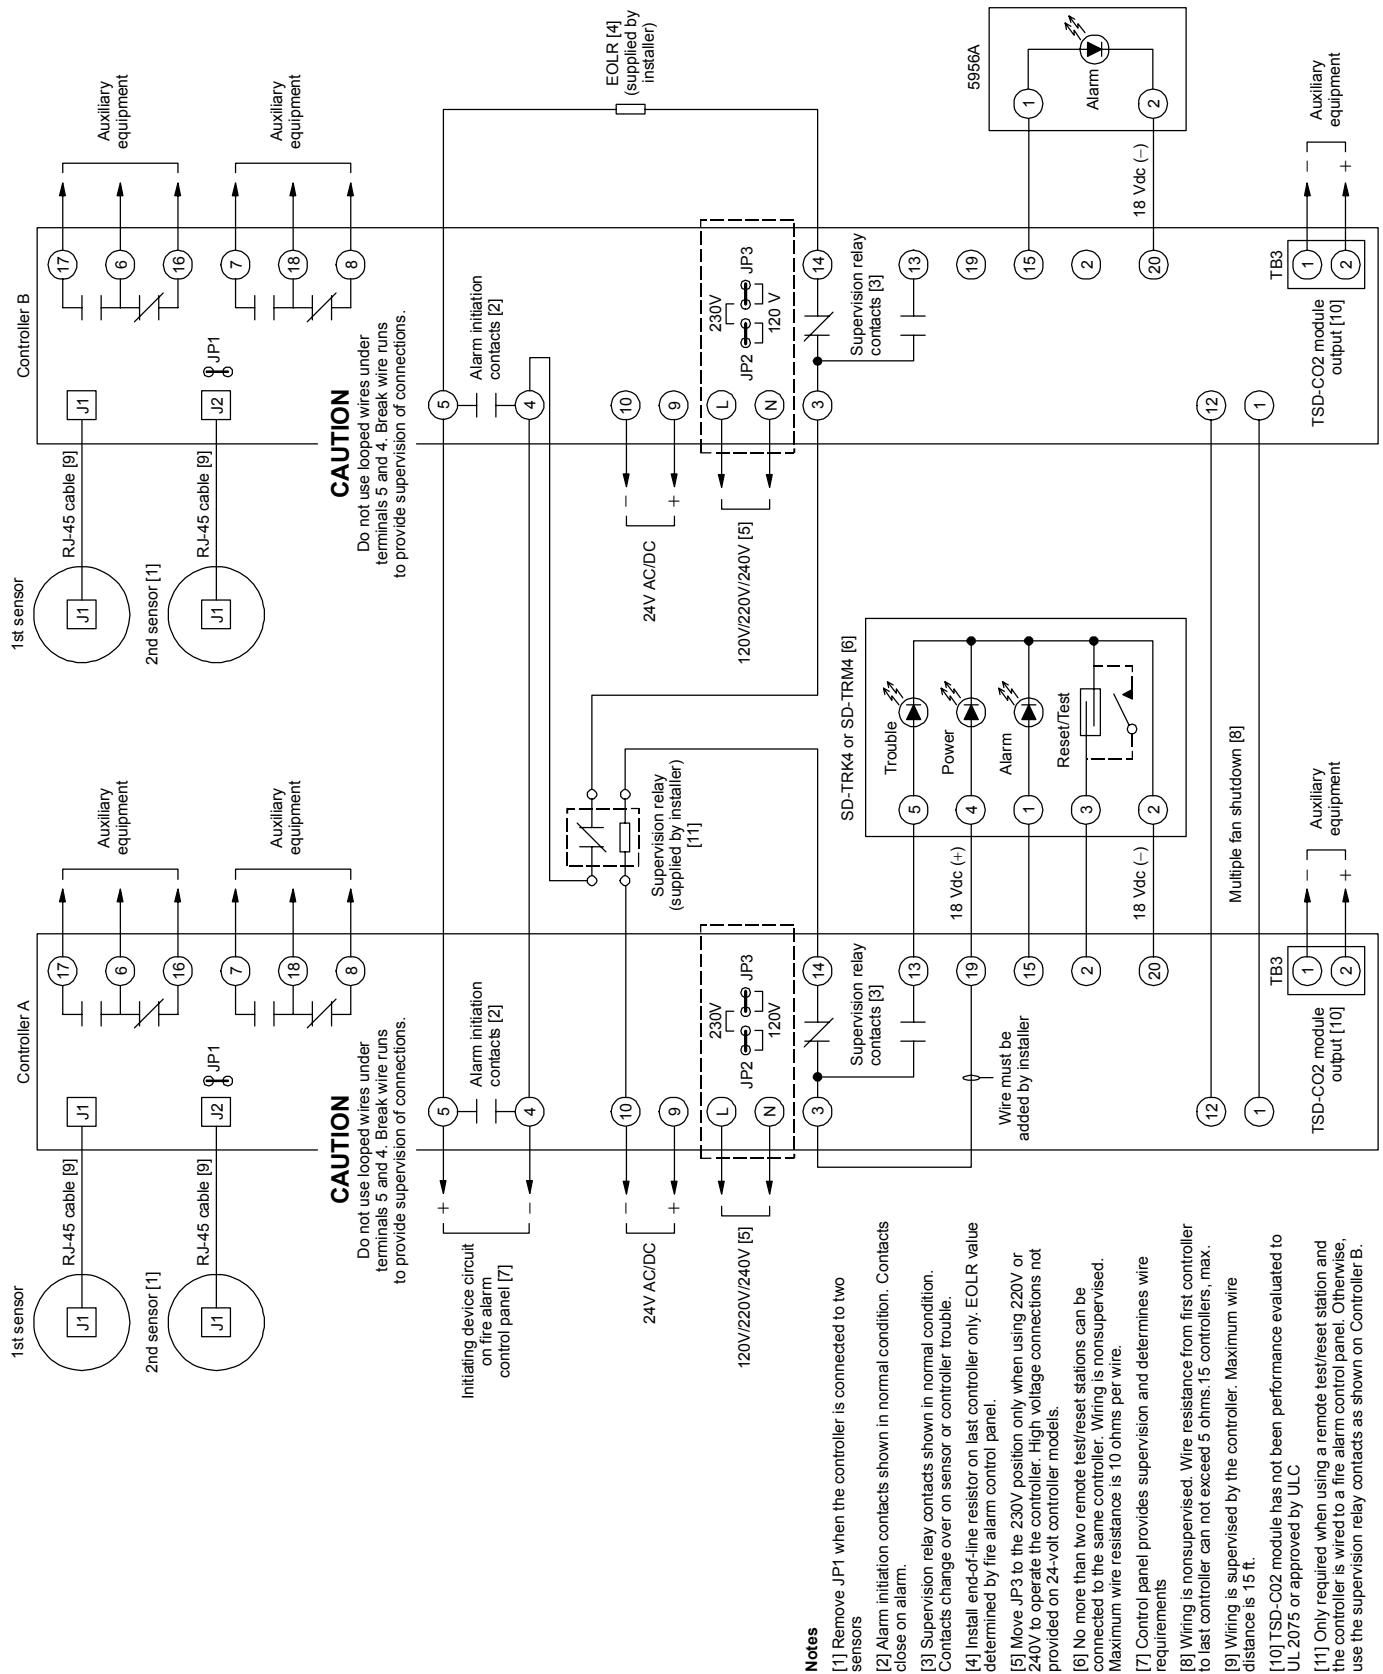
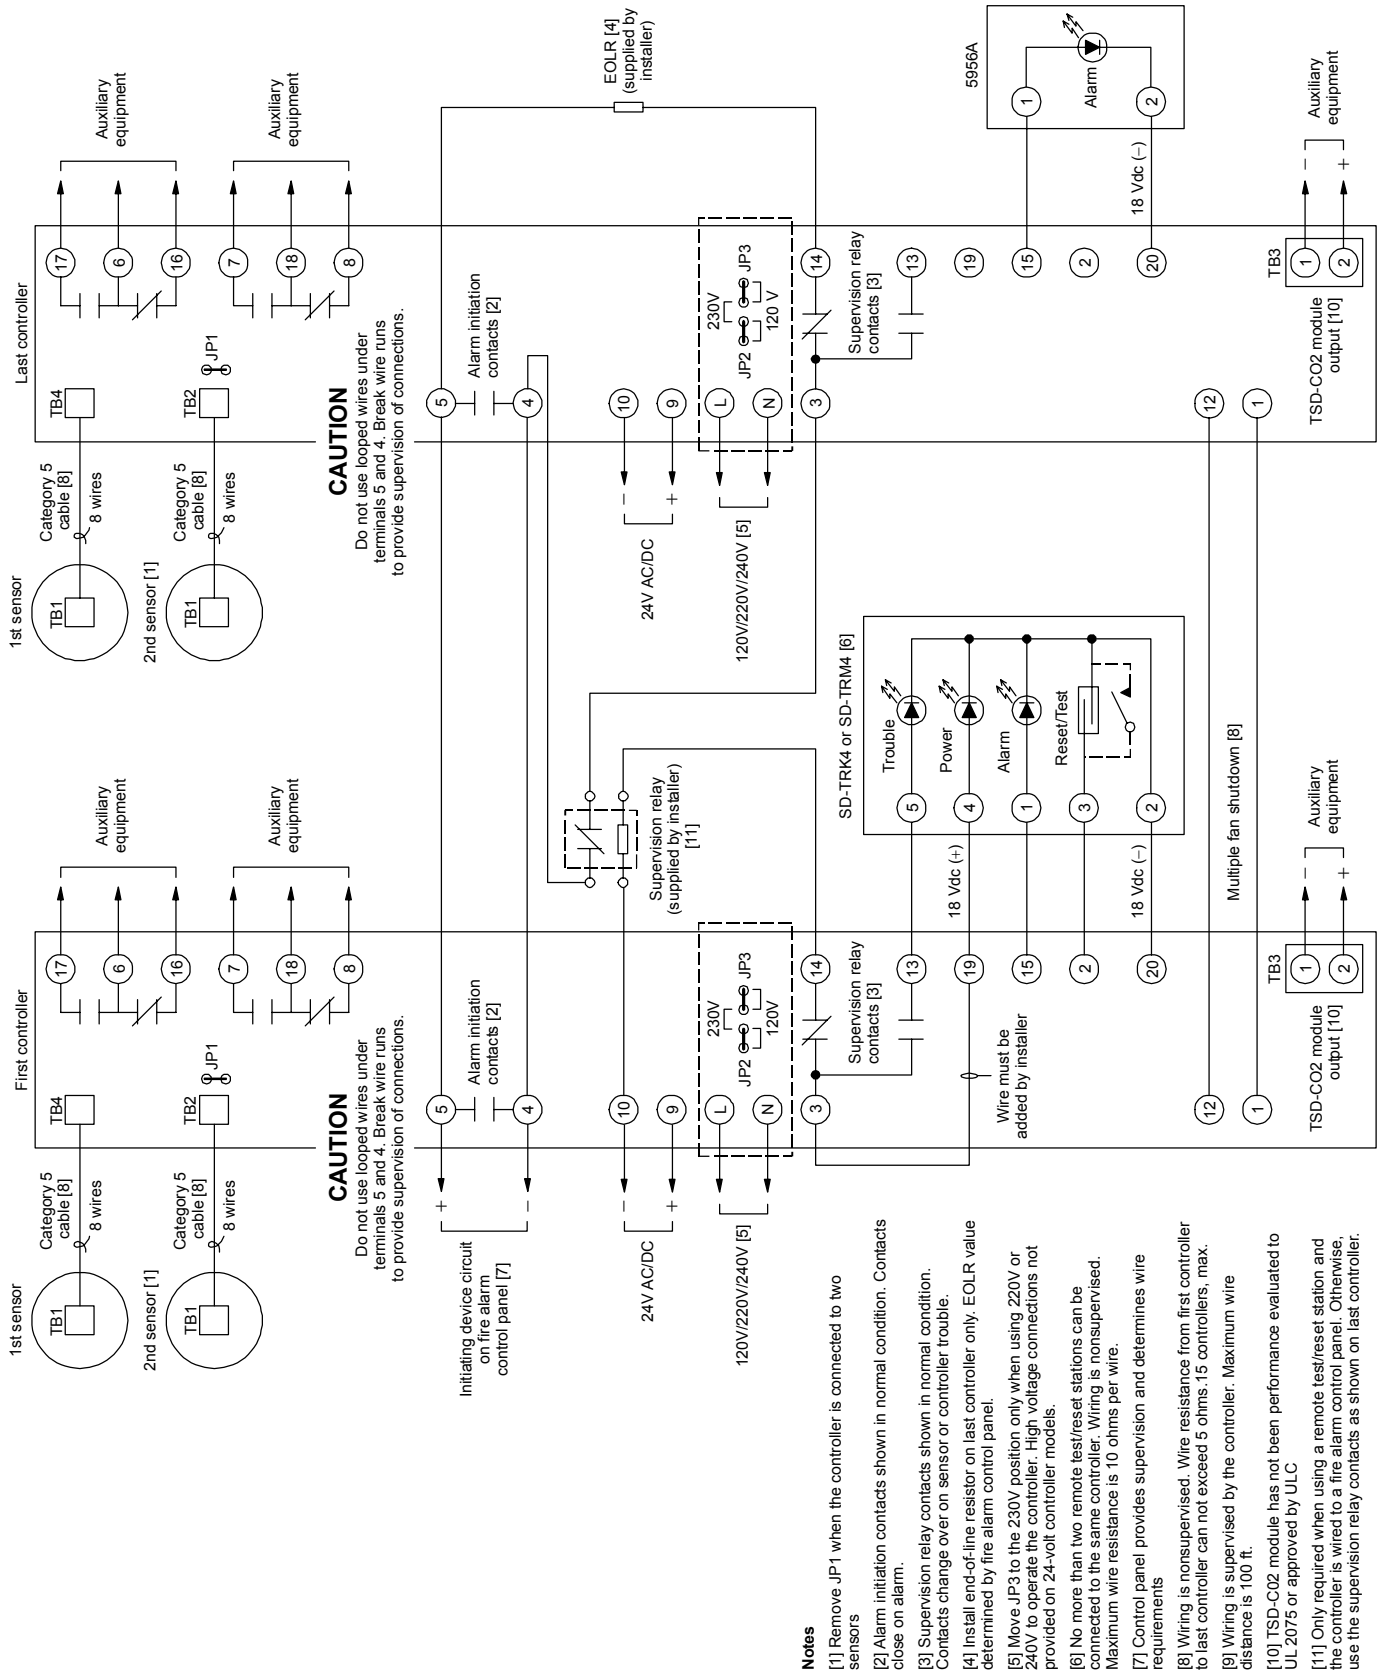

Figure 13: Duct smoke detector wiring diagram (RJ-45 version models)
Figure 14: Duct smoke detector wiring diagram (TB version models)
Figure 13 and Figure 14 show how to wire the SuperDuct duct smoke detector and accessories.
The test/reset station dirty test checks the test/reset station's ability to initiate a sensor dirty test and indicate the results. For the test/reset station to indicate the results of the sensor dirty test, it must be wired to the controller as shown in Figure 13 and the sensor dirty test must be configured to operate the controller's supervision relay. For more information, see "Changing sensor dirty test operation."
1. Verify that the remote test/station is wired as shown in Figure 13. Repair or replace loose or missing wiring.